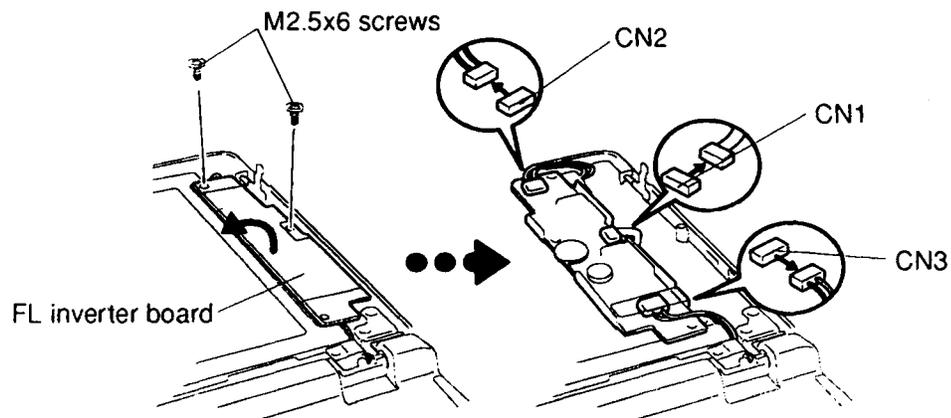

Figure 4-27 Removing the FL Inverter Board
4. Remove the **two M2.5x6 screws** securing the **FL inverter board** (Figure 4-27).
1. Connect the **FL inverter cable** to **CN1** on the **inverter board** and the **two FL cables** to **CN2** and **CN3** (Figure 4-27).
3. Replace the **FL inverter board** and secure it with the **two M2.5x6 screws** (Figure 4-27).